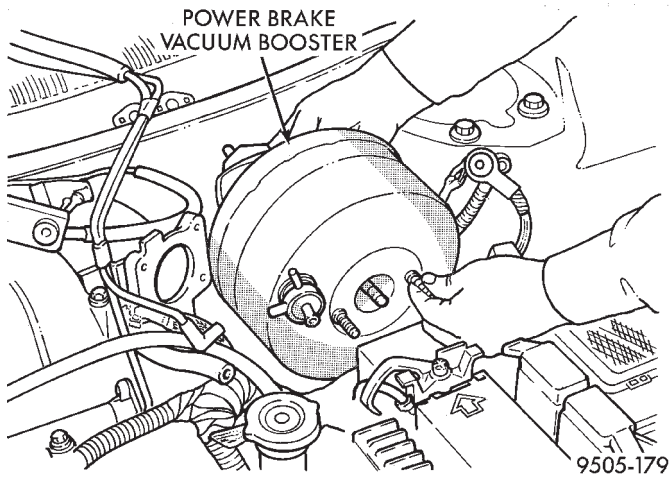

Fig. 115 Power Brake Vacuum Booster Removal
(19) Slide the vacuum booster straight forward until mounting studs clear dash panel. Then lift the vacuum booster straight up to remove it from the vehicle (Fig. 115).